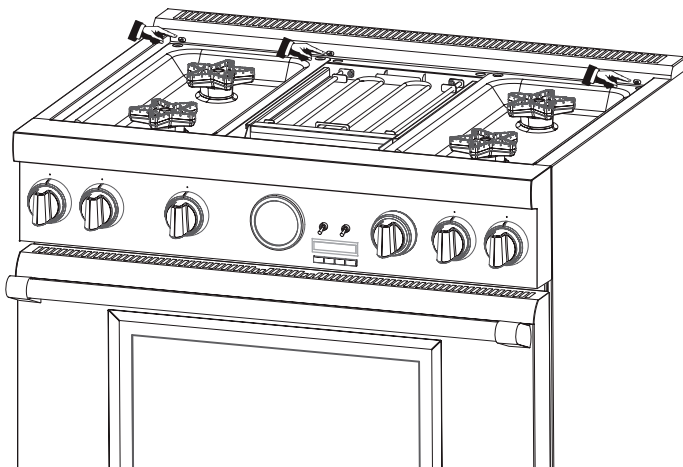

Figure 27: Flush Island Trim Front Face Screw Removal
1. Depending on model, remove the (3) or (5) T-20 Torx stainless screws in the front face of the included Flush Island Trim (*Figure 27*).